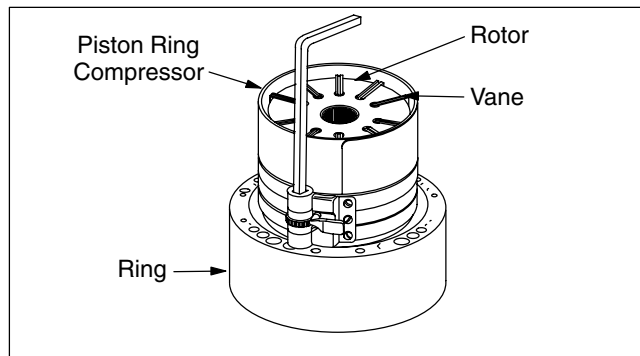

Figure 9.
Carefully pull the rotor and vane assembly half way out of ring and install the ring compressor (see Figure 9). Compress the vanes into the rotor and remove this assembly from ring. Release the ring compressor and disassemble components. Remove the o-ring and back-up rings from the pressure plate and body.
3. **Cartridge Assembly.** With the rotor lying on a clean, flat surface, slide the vanes and springs into the rotor slots. Lift the vanes slightly to insure the springs are positioned in the spring recesses of the rotor. With a piston ring compressor of suitable size, compress the vanes in the slots so the vanes will clear the minor diameter of the ring (Figure 9).
6. **Cover End Pressure Plate.** Install the cover end pressure plate against the rotor and ring. The porting in this plate will be 90 degrees from the other plate. Carefully install the two cap screws in the cartridge. Tighten the screws to values shown in Figure 9 being certain the peripheral edges of the ring and plates are flush. Tap with a plastic hammer if necessary to effect alignment.
9. **Cover Assembly.** Install the o-ring in the cover, greasing liberally. Carefully install the cover, being sure the locating pin engages the pin hole in the cover. To check engagement, turn the cover 30 degrees in both directions and be certain the cartridge moves with it. Install four cover bolts and tighten requirement shown in Figure 9.